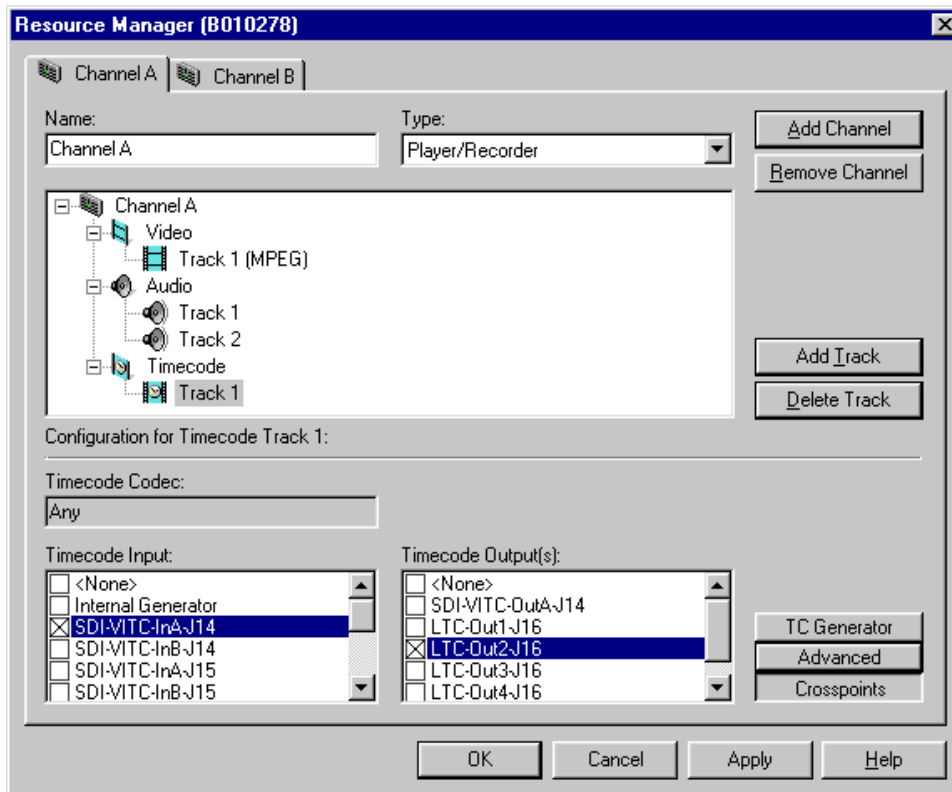

Figure 161. Timecode Input and Output check boxes
1. Click on a Track icon under the Timecode icon in the configuration tree and, with the Crosspoints button clicked, the Timecode Input and Output check boxes appear at the bottom of the Resource Manager dialog box (see Figure 161).